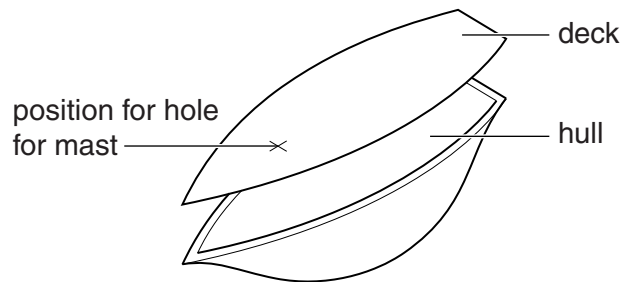

Fig. 11
- (f) Fig. 11 shows the separate parts of the hull and deck.